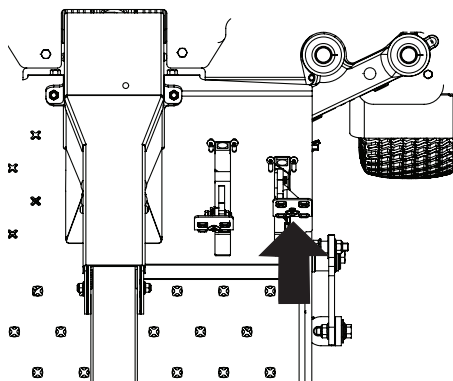

Figure 29
1. Slowly push the reverse drive pedal forward. The mower will start to move in the reverse direction (Figure 29).